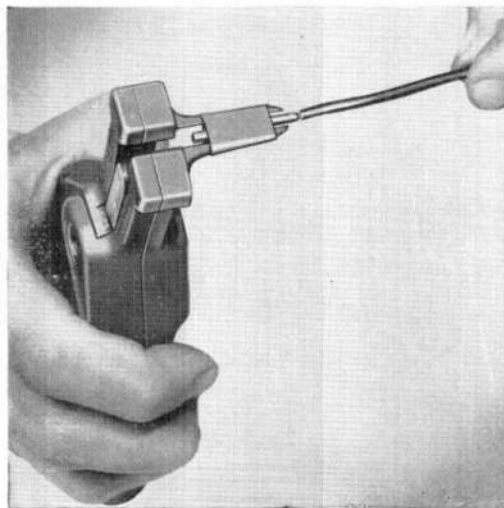

Fig. 1. Fitting marker sleeve
8. Sleeves are most easily fitted using a sleeve-fixing tool (fig. 1). This is in three sizes, as follows: